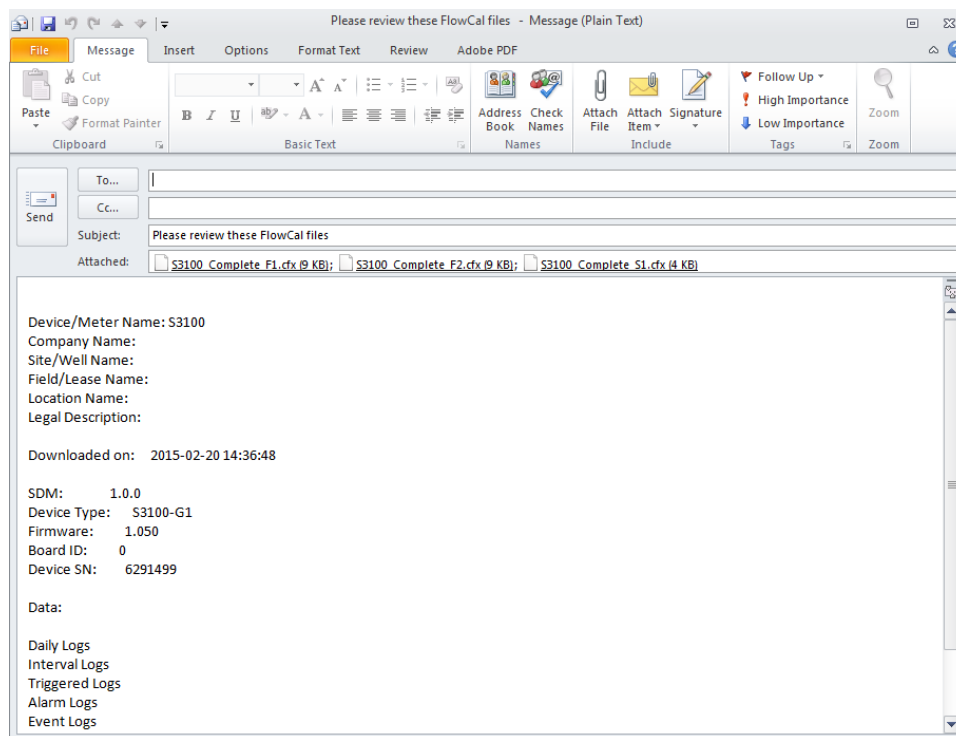

Figure 3.8—Automated email generated for converted files
6. Wait momentarily while Scanner Data Manager opens an email window on your computer, attaches the conversion file(s), and embeds a brief description of the file(s) in the body of the email (Figure 3.8).